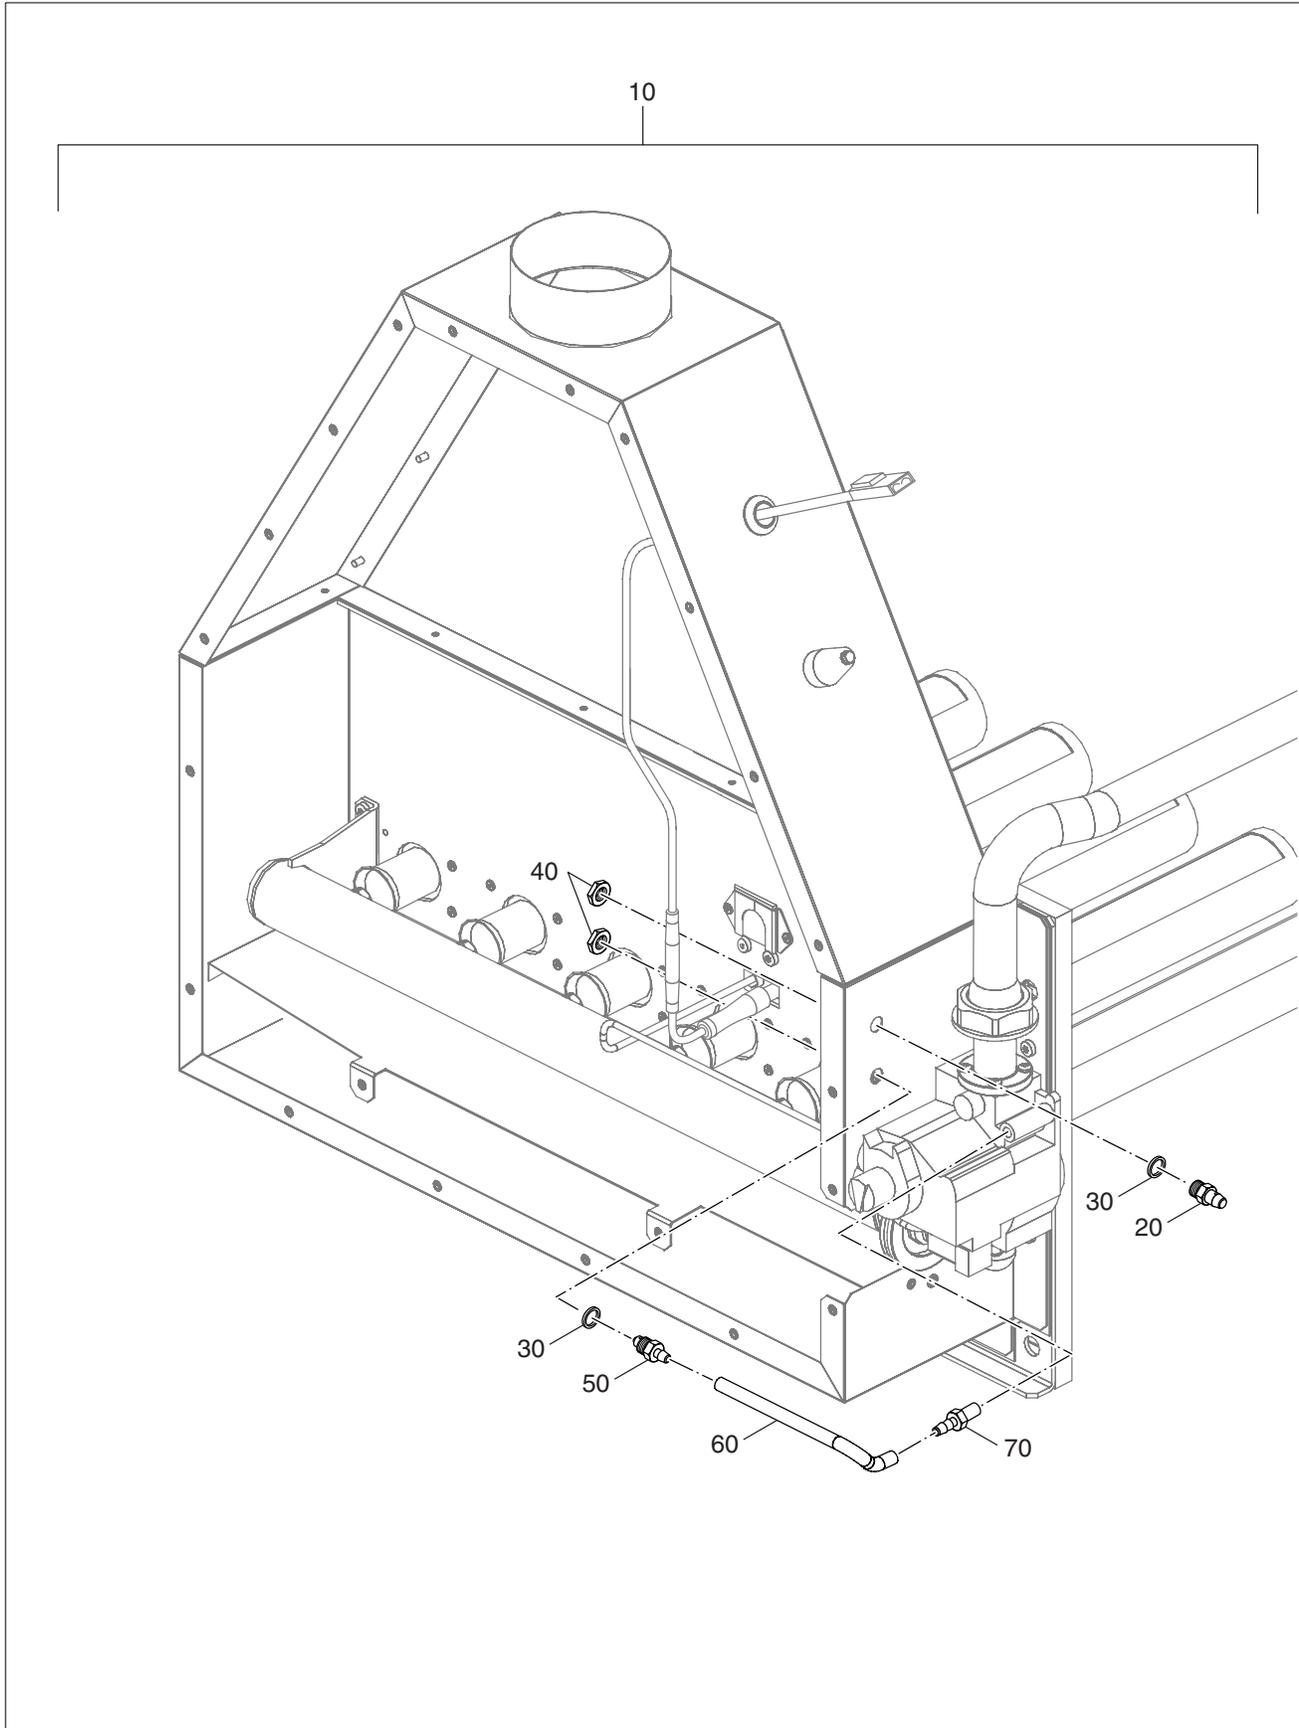

Fig. 42 Measuring line set
**Measuring Line - Set (Fig. 42)**